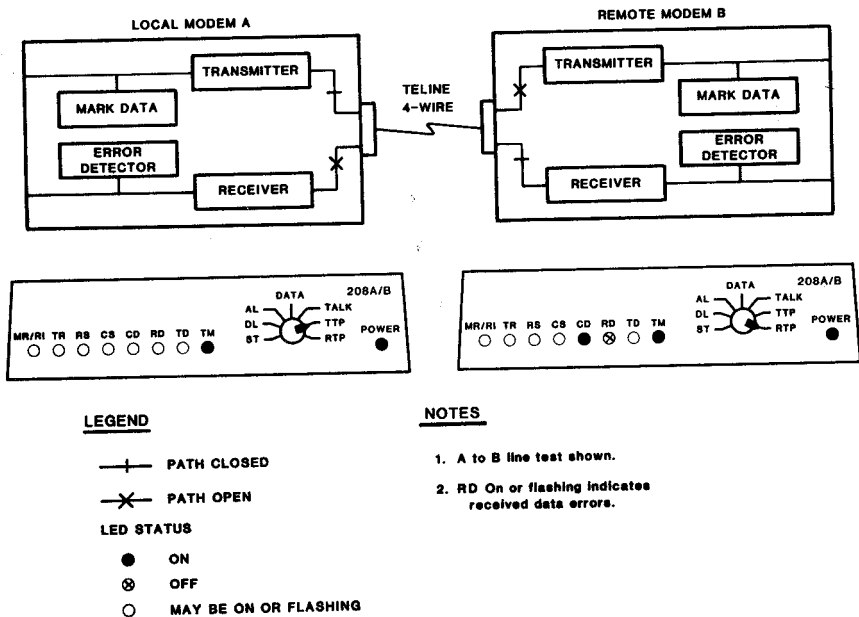

Figure 4-12
4.5.4 Test 12 - Telephone Line Integrity Test (Figure 4-12)